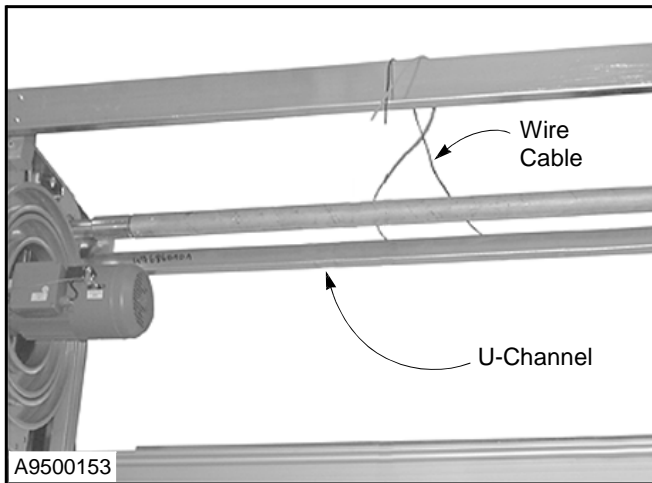

Figure 39
3. Route the right-front photo eye cable straight up into the right drive assembly, then across the head assembly by way of a U-channel. This U-channel runs along the back of the head assembly, near the top edge. (See Figure 39.)